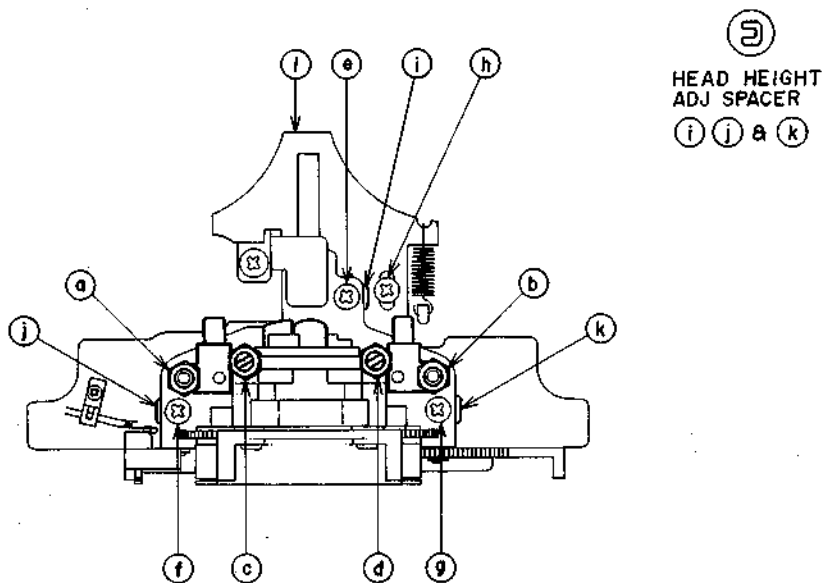

Fig. 6-2
- 2) Adjust the tape guides A and B by turning the tape guide height adjustment nuts (a) and (b) in Fig. 6-2, so that the upper edge of the tape runs smoothly by the adjacent edge of both tape guides, and the tape is not hitched by those tape guides.
ADJUSTMENT (Refer to Fig. 6-2)
- 3) If the difference is more than ± 1 dBm in item 2), adjust the tape guides A & B by turning both Tape Guide Height Adjustment screws (a) & (b) (shown Fig. 6-2) in the same direction by $1/4$ turn (± 0.1 mm), so that difference is within ± 1 dBm.
ADJUSTMENT (Refer to Figs. 6-2 & 6-3)